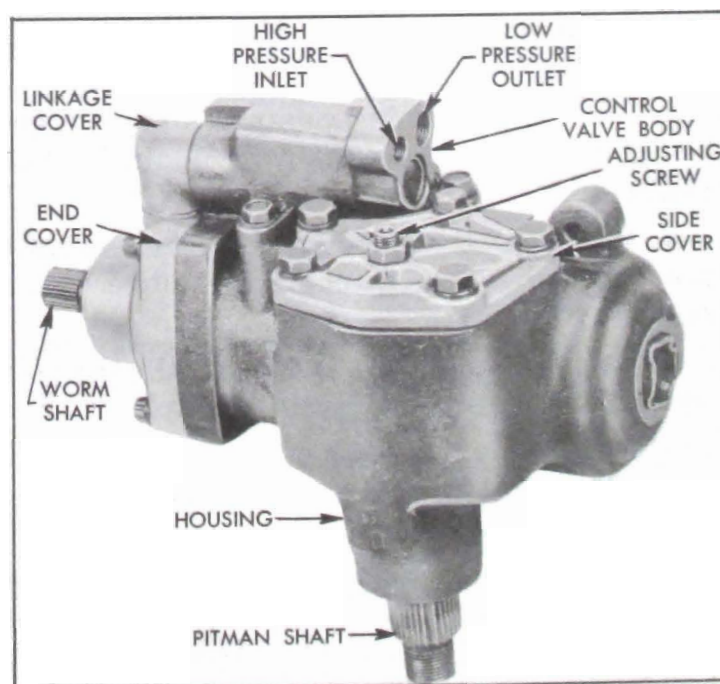

Figure 8-19—Right Side of Power Steering Gear Assembly
2. Remove the control valve retaining bolts and lift control valve and linkage cover off the gear housing. Pull the linkage cover out of the valve body. See Figure 8-19.